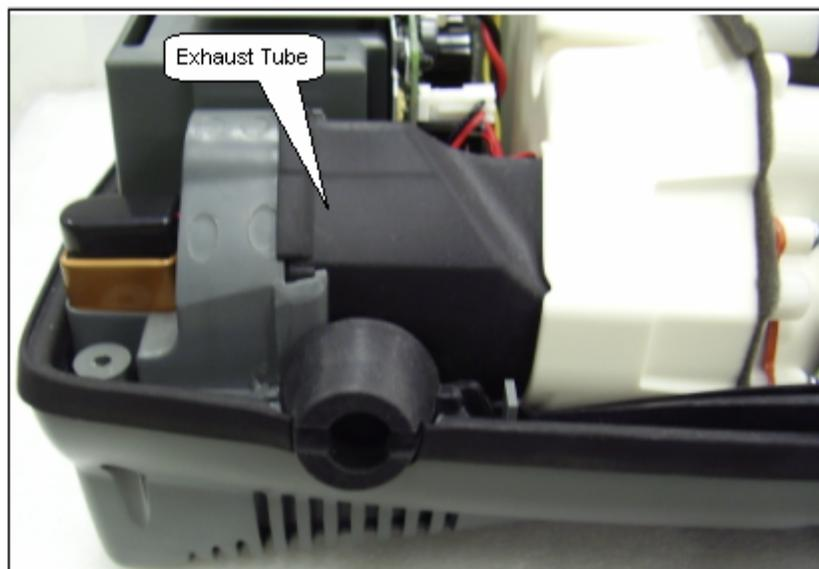

Figure 45: Exhaust Tube Removal.
5. Remove the Exhaust Tube shown in Figure 45
11. Hold onto the Compressor Box and lift the Bottom Case in standing position. Insert the Exhaust Tube into the slot of the Exhaust Duct as shown on Figure 45 above. Ensure that it is secure without any gaps.